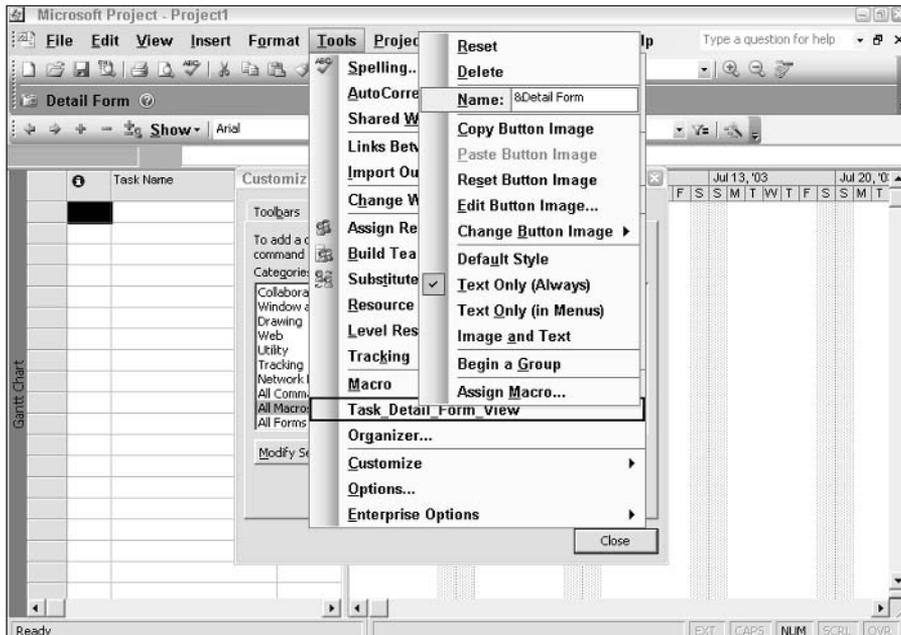

Figure 24-14: Modifying the command name on the menu.
6. To change the name of the macro on the menu, click **Modify Selection** in the **Customize** dialog box to open the pop-up menu, as shown in Figure 24-14.
Alt-T opens the Tools Menu so Alt-T-D opens the tools menu and selects the item in that menu with D as the hot key. `JmpTo` provides a hotkey character for your macro name, place an ampersand (&) immediately before the character that you want to be the hotkey—as I did before the *D* of *Detail* in Figure 24-14. If your macro name contains a number, you can make it the hotkey character using the same technique. Make sure that the letter you select is not already in use by some other command on the same menu. When the command appears on the menu, the hotkey character will be underscored, enabling you to choose the command from the menu by pressing the hotkey character combination. For example, I can choose the *Detail Form* command by pressing Alt+T+D. Alt-T opens the Tools menu, and D selects *Detail Form*, the item in that menu with D as the hot key.